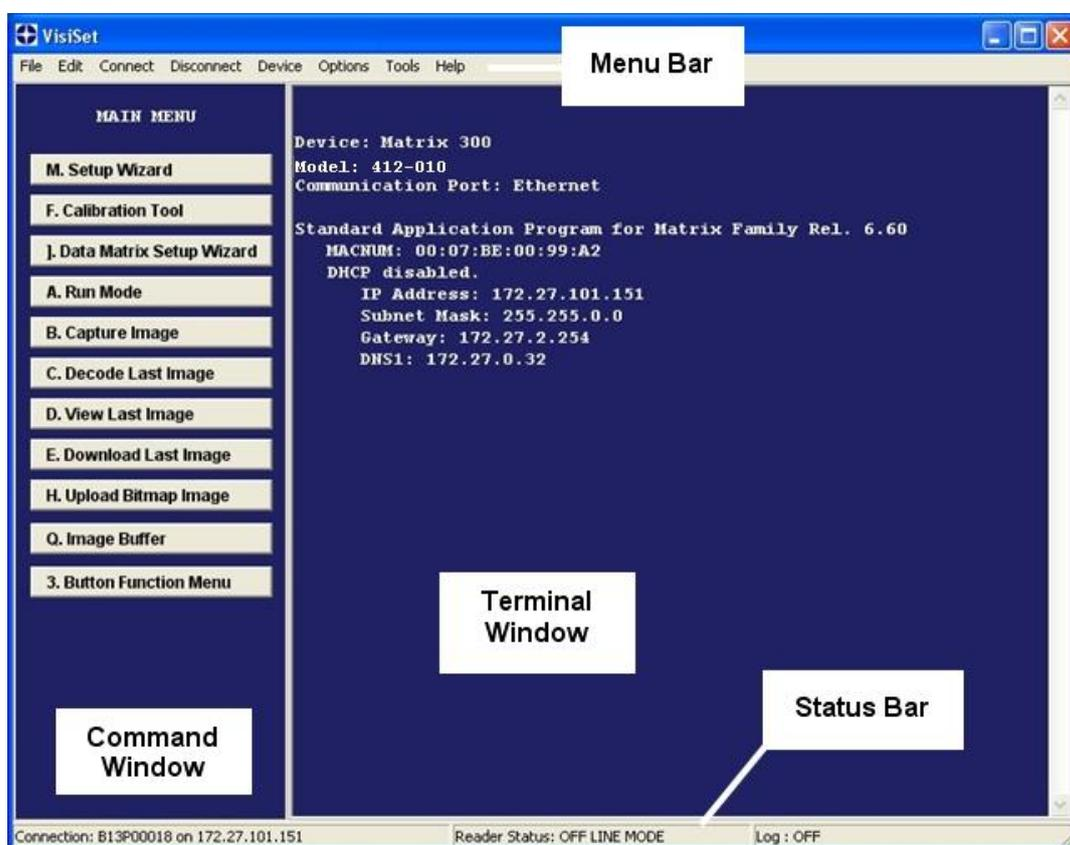

Figure 71 - Main Window
Upon connection, Matrix 300™ exits Run Mode and displays the Main Menu on VisiSet™ with all the commands necessary to monitor your reader's performance. You can select these commands using the mouse or by pressing the key corresponding to the letter shown on the button. See Figure 71.
The **Options** item from the VisiSet™ menu (see Figure 71) presents a window allowing you to configure:
6. Close the Parameter Setup window and press **Disconnect** on the VisiSet™ menu bar (see Figure 71) or launch **Run** Mode from the VisiSet™ Main menu.